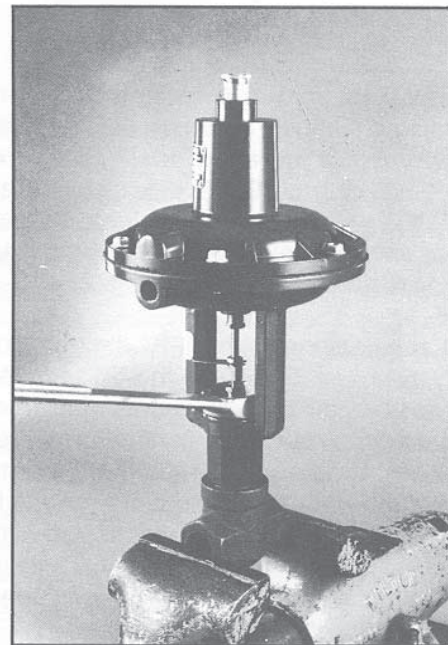

FIG. 1
3. With the open-end wrench, turn the stem connector counterclockwise (right hand threads), unscrewing from the topworks stem completely. (Fig. 1)